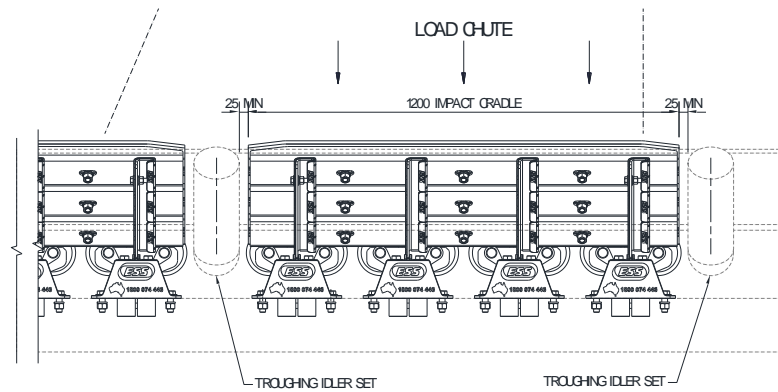

Figure 2 - Modular Combi-Cradle Layout
- Step 4. The ESS Combi-Cradle is intended to be installed between impact idler troughing assemblies. Multiple combi-cradles will have an impact idler trough assembly between each successive cradle. Ensure that impact idler assemblies are either already installed or available at the installation site. If the idlers are already installed check that sufficient clearance is available between successive sets of rollers to fit a combi-cradle. Standard combi-cradles are 1200mm long and require 25mm clearance at each end between cradle bar and roller (Fig 2).
- Step 10. If not already in position, install an impact idler set either side of the impact cradle base ensuring that 25mm clearance will be available at both ends of the centre impact bars (Fig 2).